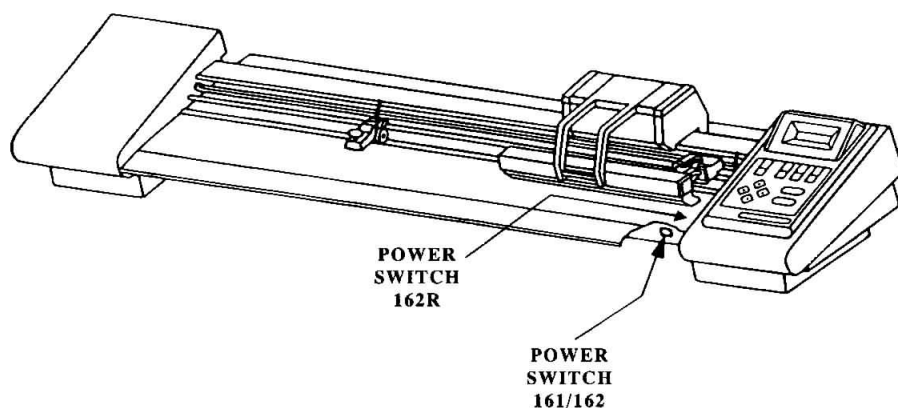

FIGURE 1-4. POWER SWITCH
- Find the POWER switch and set it to ON to power on the plotter. See Figure 1-4. Notice that the plotter powers up with the fan on. The control panel displays SHEET NOT LOADED when the plotter is ready for use.